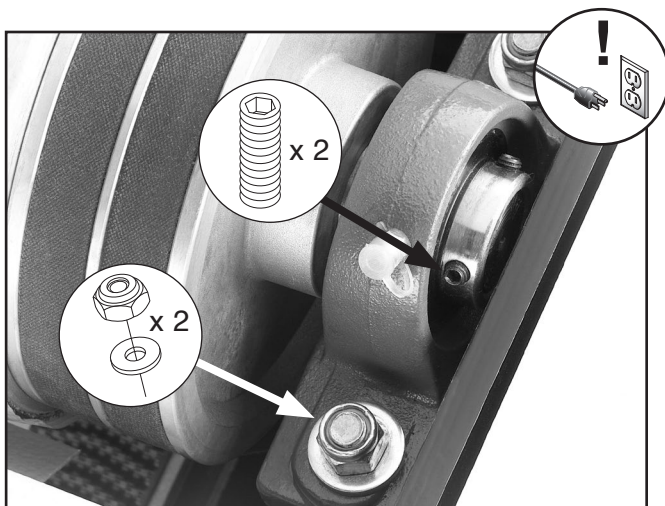

Figure 53. Location of bearing fasteners.
3. Remove lock nuts and flat washers from bearing block assembly on each side of drum, shown in **Figure 53**.